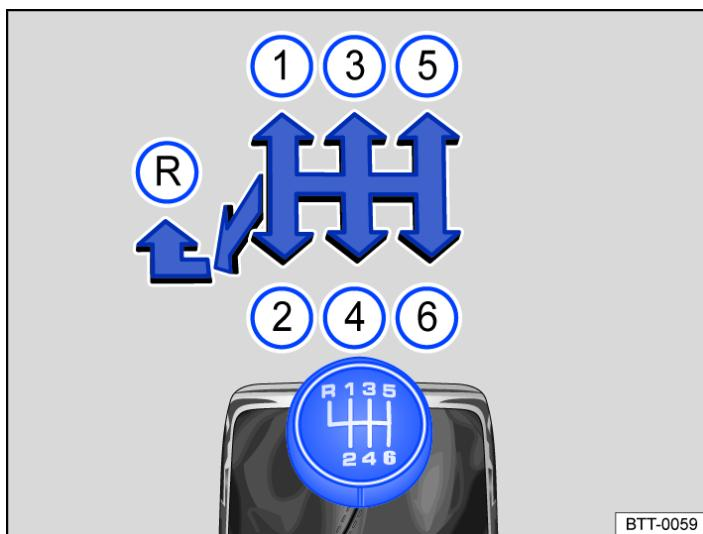

Fig. 1 Gear shift pattern of a 6-speed manual gearbox.
The positions of the individual gears are displayed on the gear lever → *Fig. 1*.
- Push the gear lever completely to the left and then forwards into the reverse gear position → *Fig. 1* .